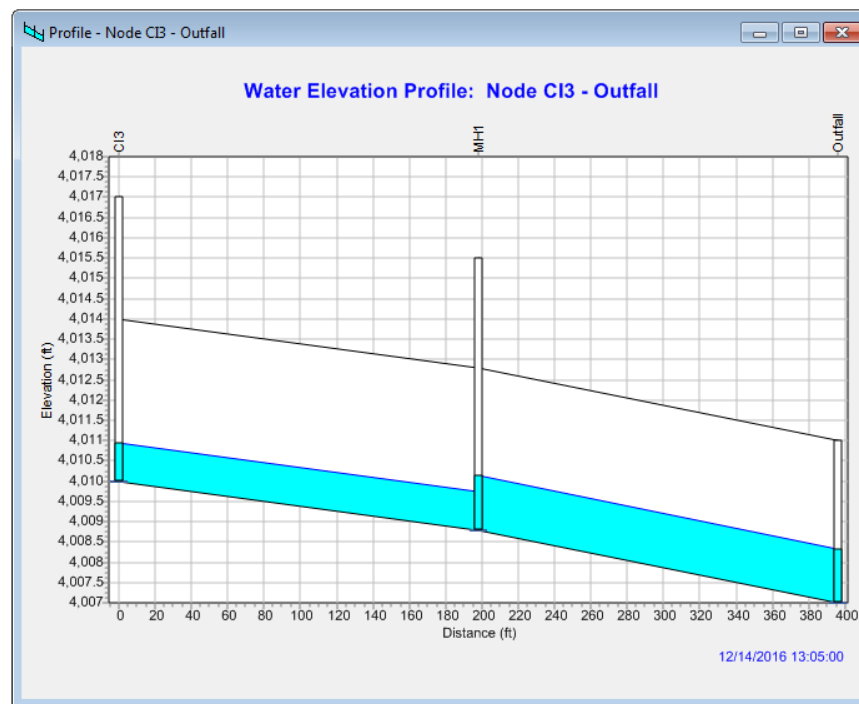

Figure 9 Water Elevation Profile from node CI3 to the outfall
13. Click **OK** to close the *Profile Plot Selection* dialog and bring up a “Water Elevation Profile” plot (Figure 9).